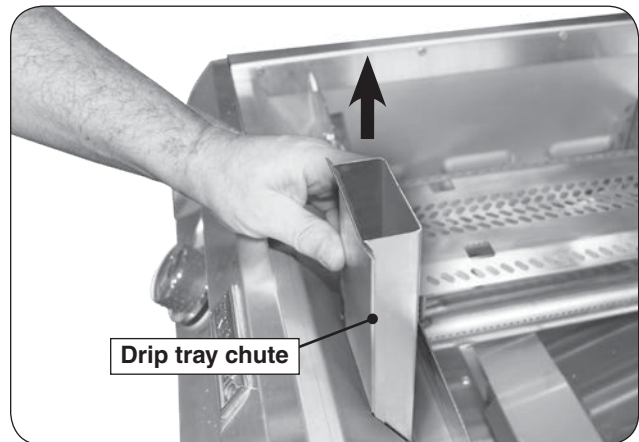

Fig. 32-2 Drip tray chute removal
2. Remove the drip tray chute by pulling it upward (see Fig. 32-2).